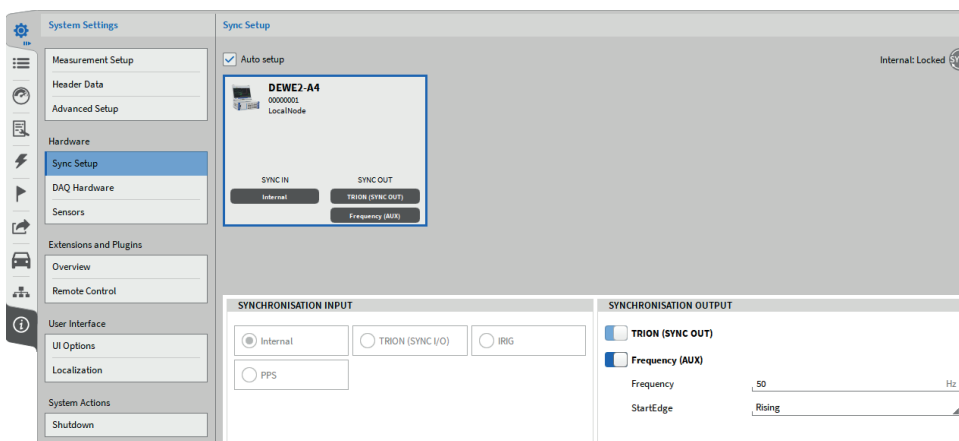

Fig. 14: Enabling the frequency output
- ▶ Enable the *Frequency (AUX)* output in the *Synchronization Output* section, select the desired signal frequency (which will be the frame rate of the camera) and set the *StartEdge* to *Rising* (Fig. 14). This means, that the camera frame is updated every time the signal has a rising edge.